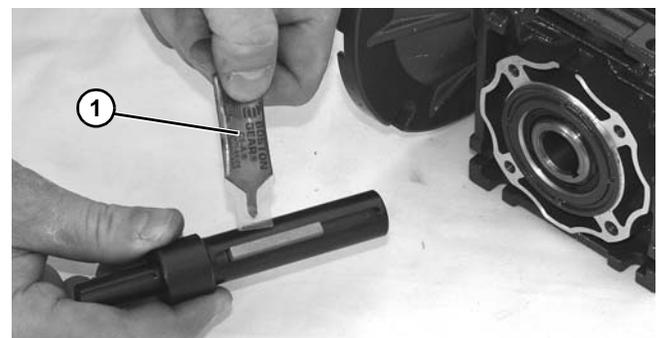

Figure 32
- Apply anti-seize (**Figure 32, item 1**) to shaft.